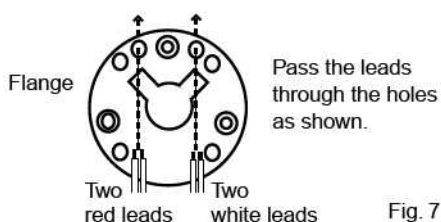

Fig. 7
10. Bend the lead wire as shown in Fig. 6, and pass two red leads and two white leads through the holes as shown in Fig. 7.
11. Secure a heating element to the flange with the screws ⑤ ⑥ ⑦.